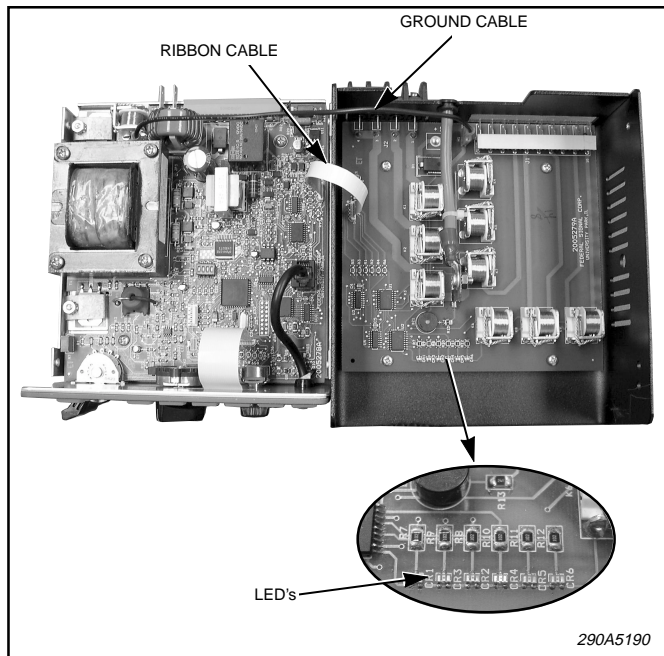

Figure 3-1.
To change the operation of the PA640 proceed as follows (see figure 3-1, 3-2 and 3-3):
C. Open unit by removing the four torx head screws holding the cover to the chassis. With the front of the siren facing you, place the relay board (mounted in cover) to the right of the amplifier board. Insure that the ribbon cable and ground cable are connecting the two PCB assemblies. (See figure 3-1.)